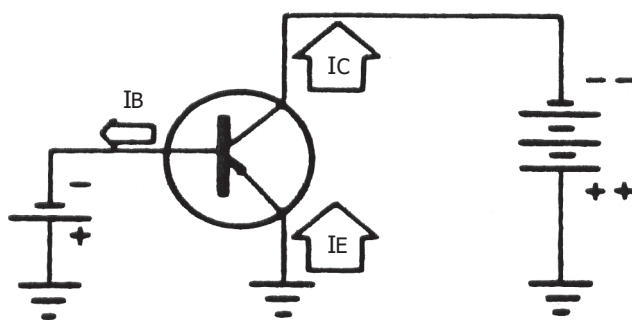

Fig. 48
- as correntes de base e coletor saem do transistor. (Fig. 48)